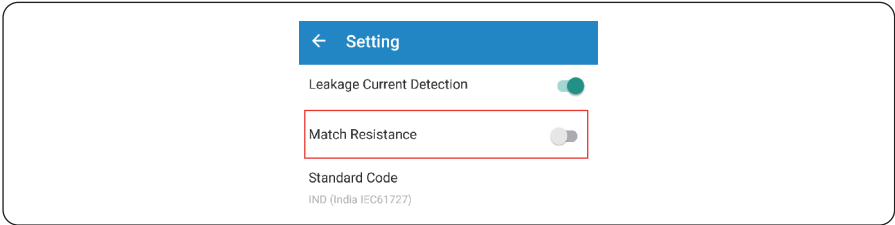

Figure 5.23 Setting Mach Resistances
**Step 4** You can set Mach Resistance of the end of multi-RS485 connection chain, as showed In Figure 5.23.